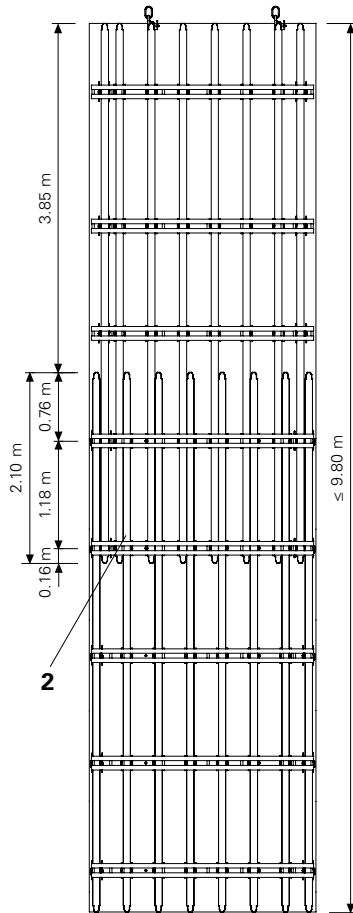

Fig. B10.04
With overlapped girders (2) for heights of up to 9.80 m. (Fig. B10.04)